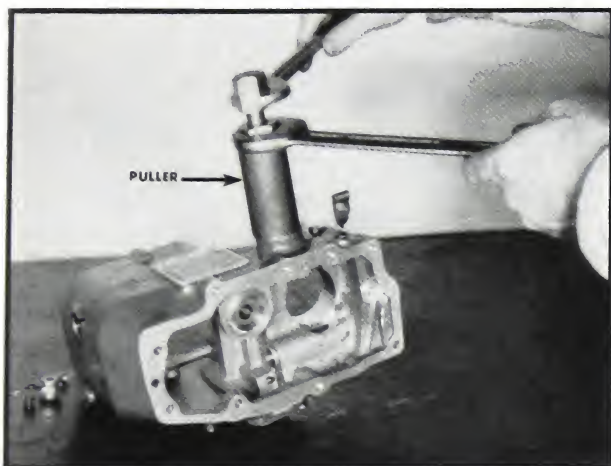

Fig. 5-234. Pulling emergency stop valve
3. Pull the valve housing by using a hollow tube and capscrew which will fit the valve housing threads. Fig. 5-234.